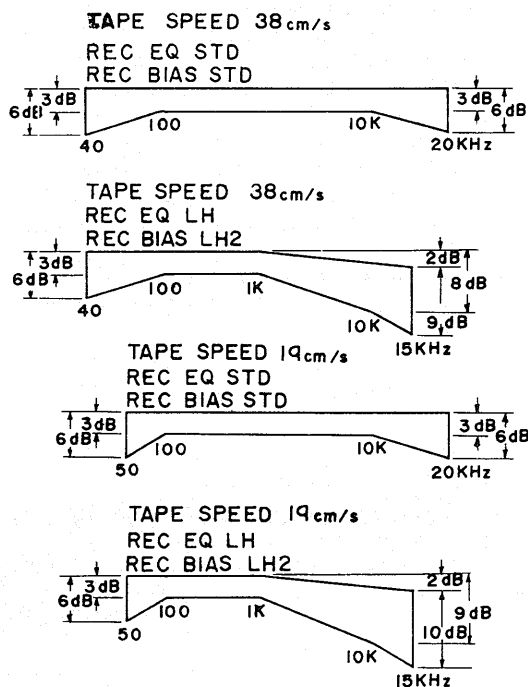

Fig. 28
4. The output level in step 3 must fall within the specified response range as shown in Fig. 28.
6. Apply following input signals as 50, 100, 250, 2.5k, 5k, 10k, 15k and 20kHz. Check to make sure the output levels are made within the specified response ranges as shown in Fig. 28 at simultaneous recording and playback.